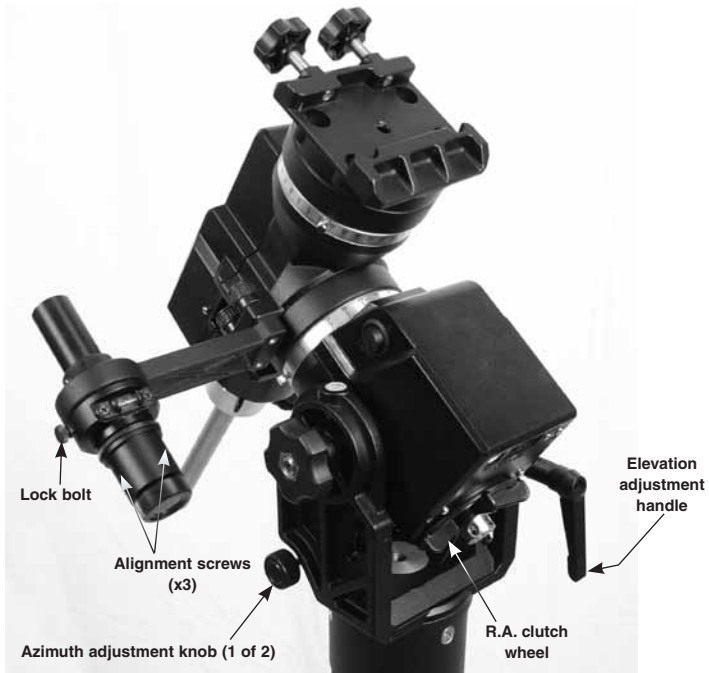

Figure 4. Calibrating the polar scope requires adjusting the mount's manual elevation and azimuth controls.
1. **For observing in the Northern Hemisphere:** The circle with fine graduations in the center of the reticle is for polar alignment in the northern hemisphere. Find the star Polaris (the brightest star near the North Celestial Pole, or NCP) in the polar scope; then use the spring loaded elevation adjustment handle and the two azimuth adjustment knobs on the mount (**Figure 4**) to move Polaris to the proper position in that graduated circle (*Refer to the upcoming section "The Orientation of Polaris in Polar Scope"*). Polaris's orbit around the NCP—which is represented by the intersection of the two perpendicular crosshairs—changes gradually. The three central circles in the polar scope reticle are the orbits for the years 2012, 2020, and 2032. Users should refer to these circles and the current year to put Polaris at the proper radius.
- 2. For observing in the Southern Hemisphere:** In the polar scope's field of view, locate the four dim stars (~ magnitude 5 - 6) of Octans that conform to the pattern shown on the reticle. Use the spring loaded elevation adjustment handle and the two azimuth adjustment knobs on the mount (**Figure 4**) to move those stars into the four small circles labeled "Octans" on the reticle.
1. Put a distant landmark or object at the center of the reticle in the polar scope's FOV using the azimuth adjustment knobs and the elevation adjustment handle (**Figure 4**).
5. If the object moved off center, adjust the three alignment screws (**Figure 4**) with a 1.5mm Allen key to move the object HALFWAY back to center. When making the adjustment, loosen one screw by 1/4 turn each time, then tighten the other two screws.
3. Loosen the locking bolt in **Figure 4**, then rotate the polar scope so the 0–6 line in the reticle is parallel to the vertical reference of the object.
1. Put a distant landmark or object in the center of the reticle in the polar scope's FOV with the azimuth adjustment knobs and the elevation adjustment handle (**Figure 4**).